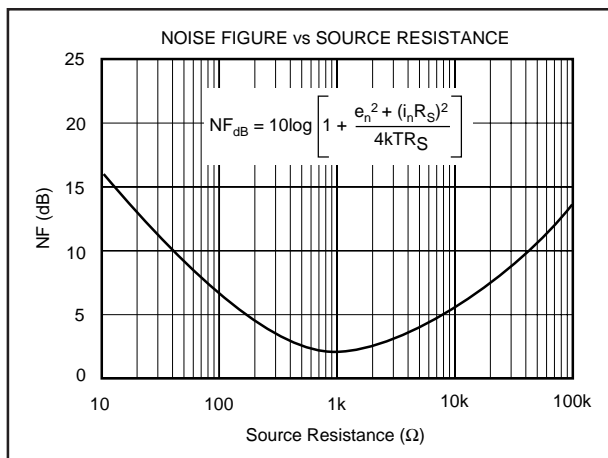

FIGURE 3. Noise Figure vs Source Resistance.
The OPA628's voltage and current noise spectral densities are specified in the Typical Performance Curves. For RF applications, however, Noise Figure (NF) is often the preferred noise specification since it allows system noise performance to be more easily calculated. The OPA628's Noise Figure vs Source Resistance is shown in Figure 3 for frequencies above 1MHz.